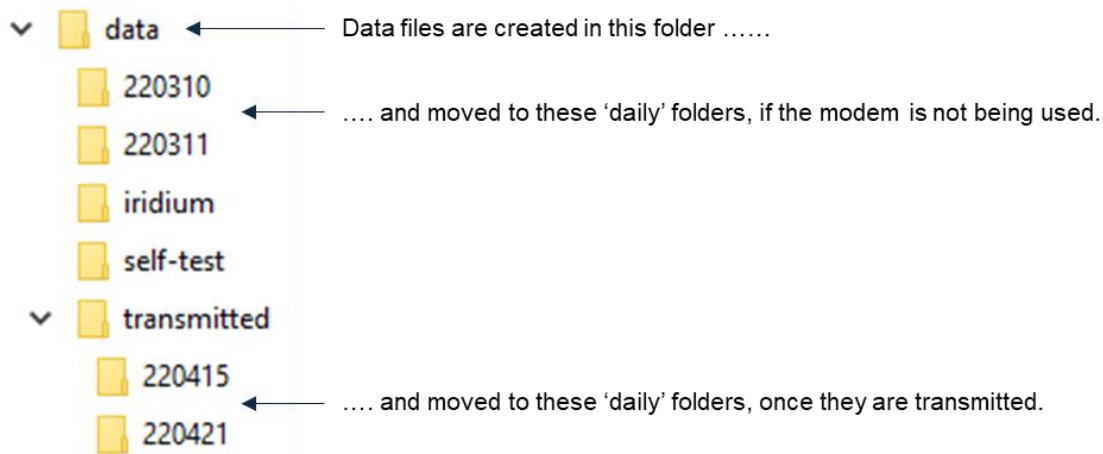

Figure 9. Location of the data files and folders, with and without cellular communication.
Data files are created on the SD card in the /data folder. This is where they 'line up' for transmission. Once transmitted, they are moved to a daily folder in the /data/transmitted folder. If multiple files are waiting for transmission, they will all be transmitted (and moved to the daily folder in /transmitted) in the order they were created (oldest first). See Figure 9. For an explanation of the file name and the file format, refer to section 18.1.
- **Logging without transmission:** If you did not schedule any transmission (so you are using the logger only for internal logging and not for transmitting the data), the files will still be created in the /data folder. But whenever a file is closed as scheduled, the file is moved to a daily folder in the /data folder. If you interrupt the logger application (control-C or power-down), the file is not moved. So you may find some incomplete data files in the /data folder if you have been using control-C. See Figure 9.